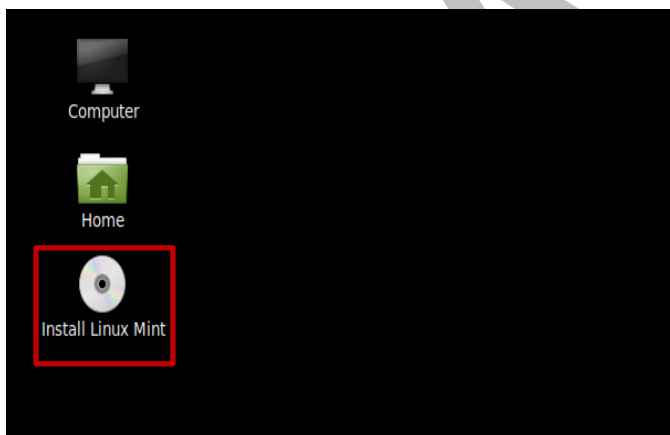

Figure 13: Installing Linux Mint Operating System
11. Choose Install Linux Mint (the install icon looks like a DVD media, as shown in Figure 13), proceed to configure installation (language, etc.). The VM will now have Linux Mint installed permanently.